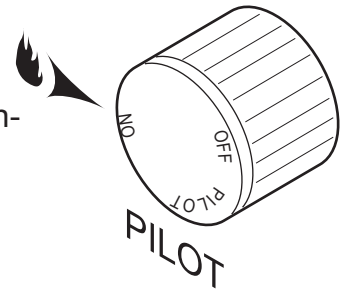

Figure 47 - On Position
Depress and turn the knob counterclockwise  to the "ON" position. *Figure 47*. It will take less than four (4) seconds for the burner to ignite.